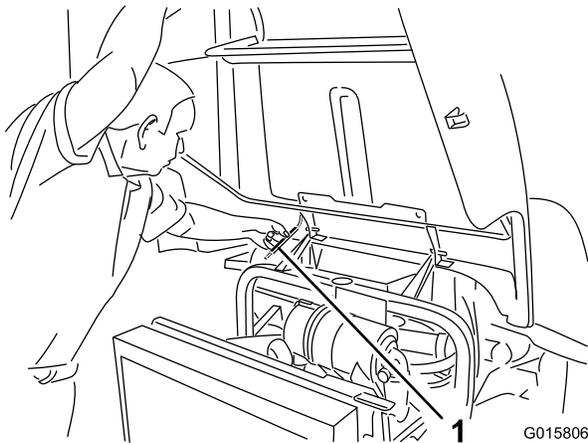

Figure 24
2. Lift up the hood until you can position the prop rod behind the frame tube (Figure 24).